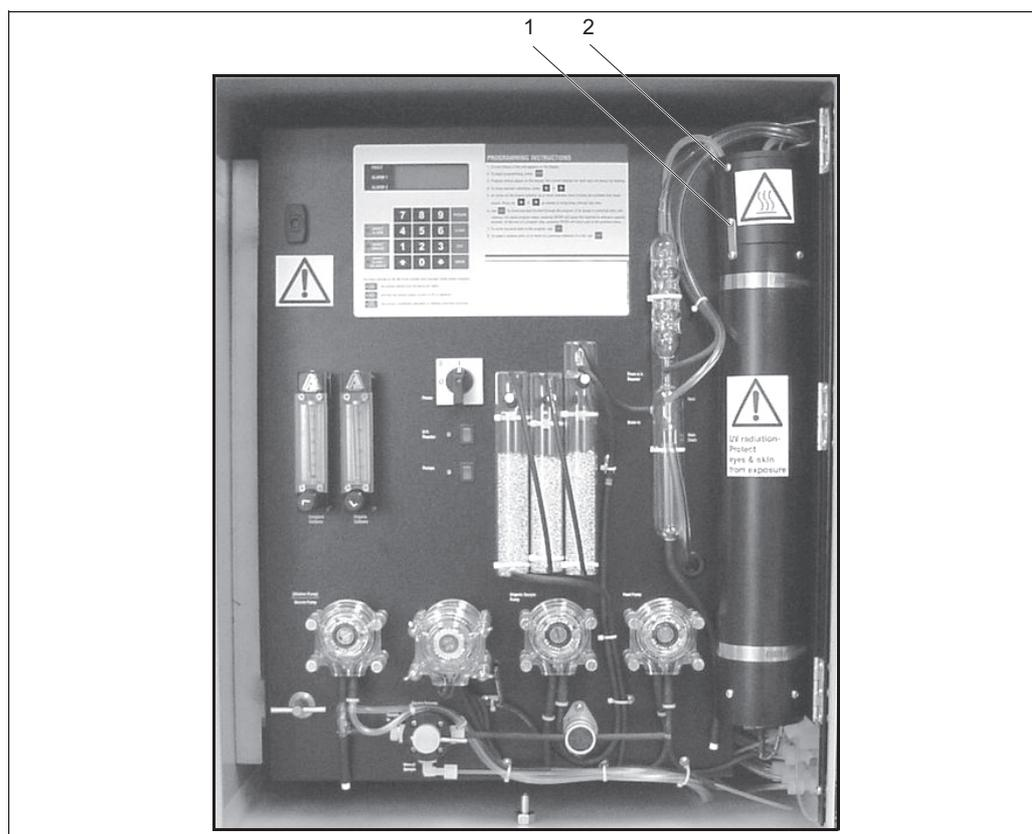

Fig. 5: UV reactor
2. Remove the top Phillips screw on the reactor ground strap (pos. 1, Fig. 5).
3. Remove the Phillips screw above the ground strap (pos. 2, Fig. 5).